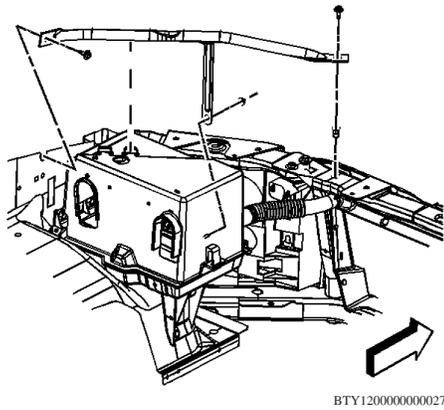

Fig. 4 Battery tray brace
11. Remove battery tray brace bolts and nut, **Fig. 4**.
4. Install battery tray brace bolts and nut, **Fig. 4**. **Torque** bolts and nut to 89 inch lbs.